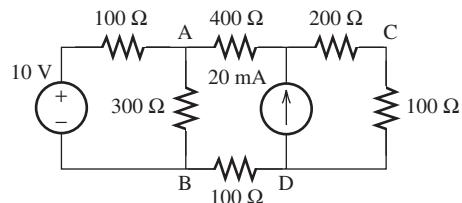

FIGURE P3.33 Circuit for Problem 3.33.
- 3.33 (H)** Determine the best choice of node as a reference node for the circuit in Figure P3.33. Then determine the current between B and D.